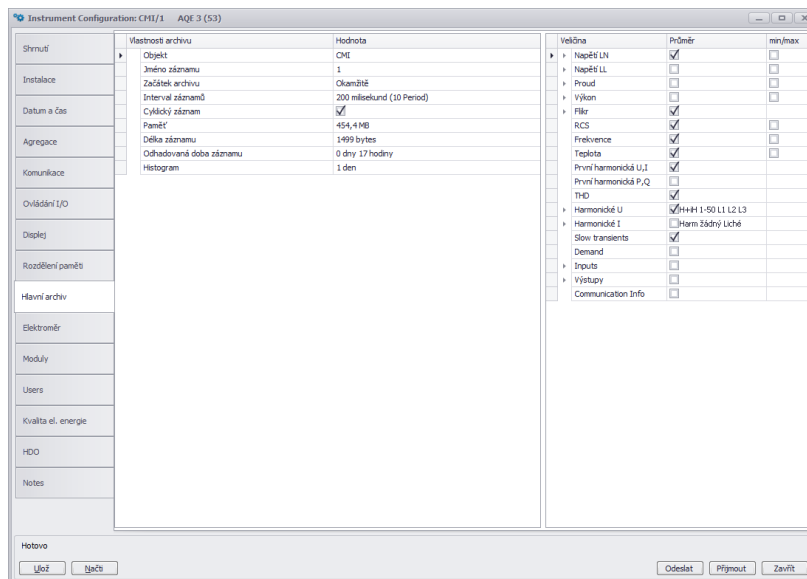

Figure 19: ENVIS.Daq — setting of list of values for main archive.
2.4.7 Setting the main archive (Archive 1, fig. 19).